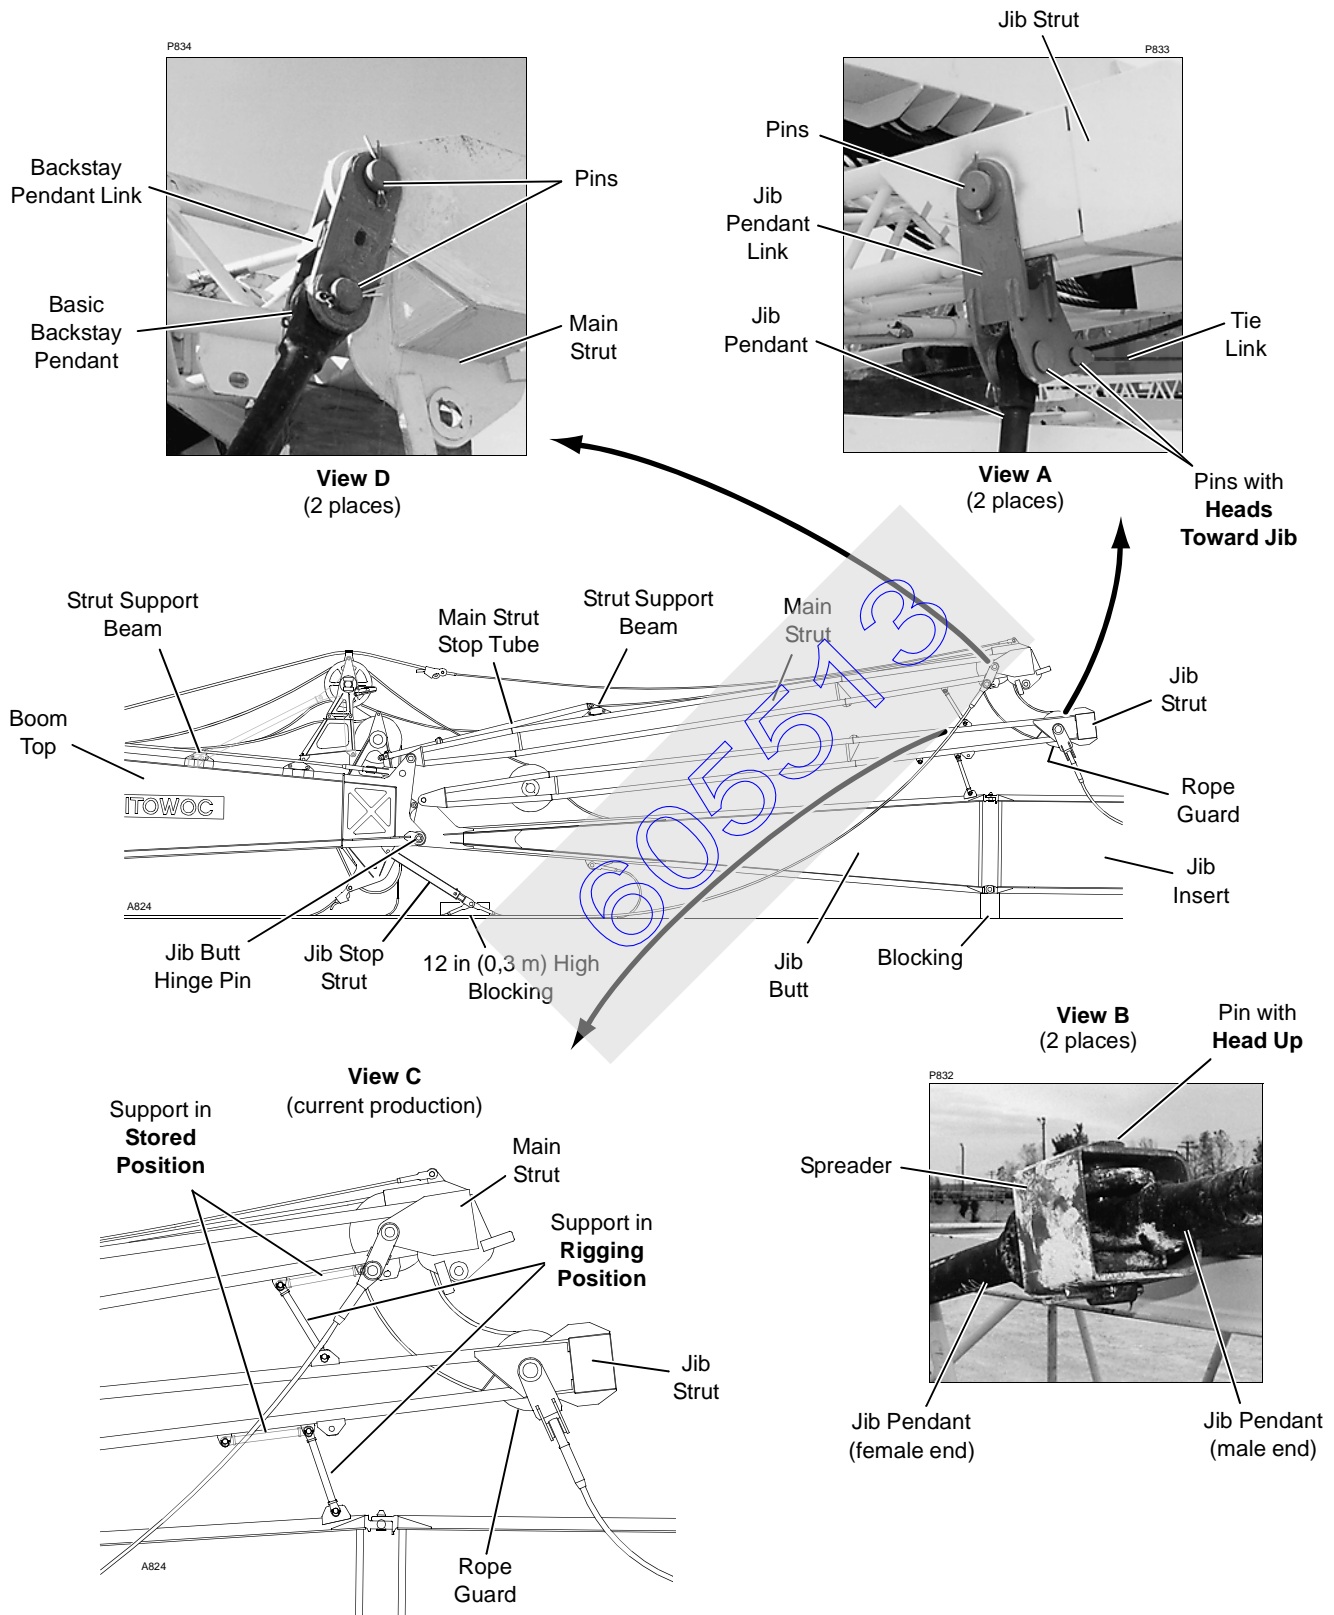

FIGURE 4-9
See Figure 4-9 for following procedure.
1. Pin jib pendant links to jib strut (Figure 4-9, View A).
2. Pin tie link between pendant links (Figure 4-9, View A).
5. On current production jibs, a strut support is provided on both sides of the jib strut as shown in Figure 4-9, View C. Pin the supports in the rigging position to support the jib strut.
1. Pin backstay pendant links to main strut (Figure 4-9, View D).
3. On current production jibs, a strut support is provided on both sides of the main strut as shown in Figure 4-9, View C. Pin the supports in the rigging position to support the main strut.
3. Install spreaders at proper locations as pendants are pinned together. **Install connecting pins with heads up** (Figure 4-9, View B).
6. On current production jibs, haul in load line just enough to support main strut. Then, **unpin strut supports from rigging position and pin in storage position** (Figure 4-9, View C).